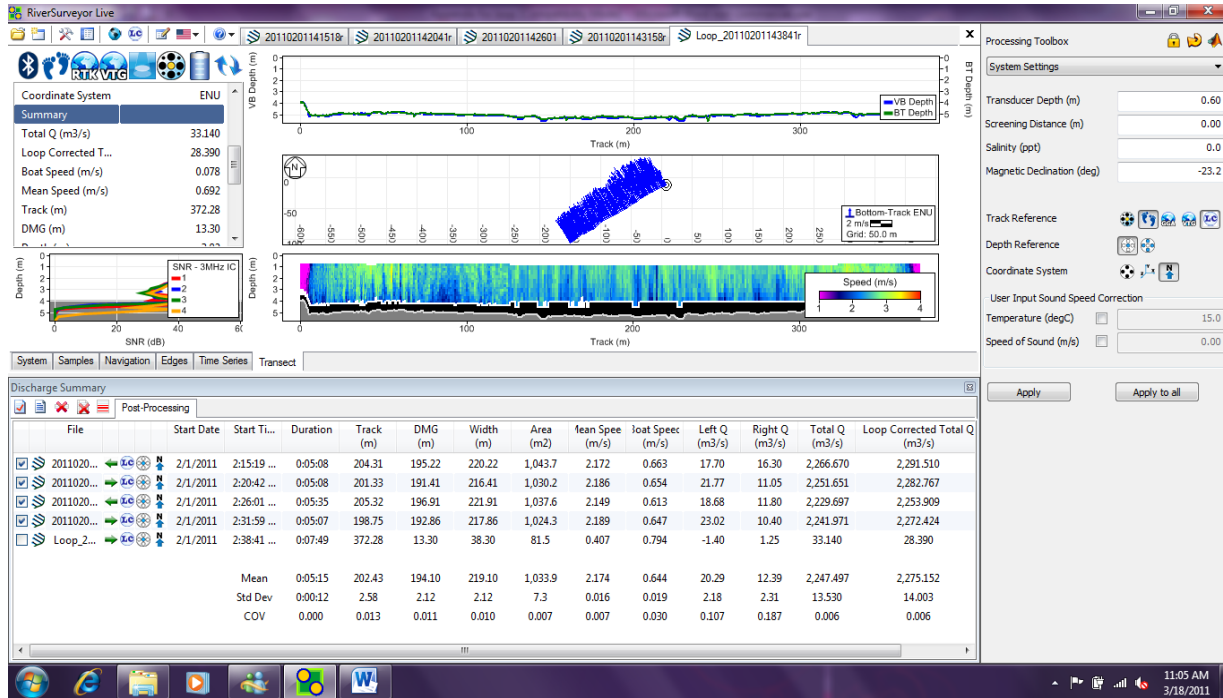

Figure 185. Loop Method Correction
- Click on the **LC** icon at the end of the Track Reference options in the Processing Toolbox on the right side of the screen. Click **Apply to all** to apply the loop correction to the open measurements. As soon as the correction (if valid) is applied, the Discharge Summary and the side bar summary table will update to show the “Loop Corrected Total Q” as shown in Figure 185: